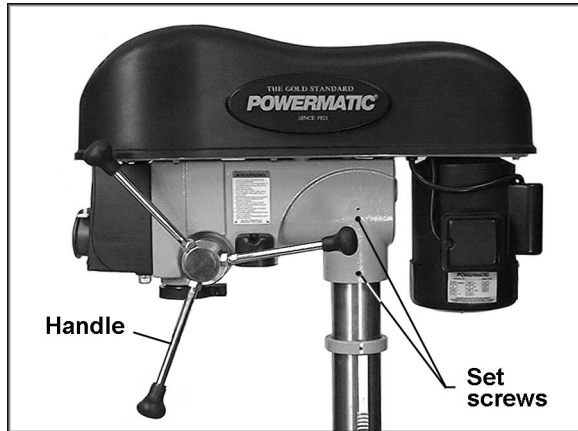

Figure 6
- With the help of an assistant, mount the head assembly to the column, and tighten the two set screws with a 5mm hex wrench. See Figure 6.
- Screw the three downfeed handles (Figure 6) into the threaded holes in the hub. These can be mounted to either side of the head for your convenience. Tighten the hex nuts against the hub.